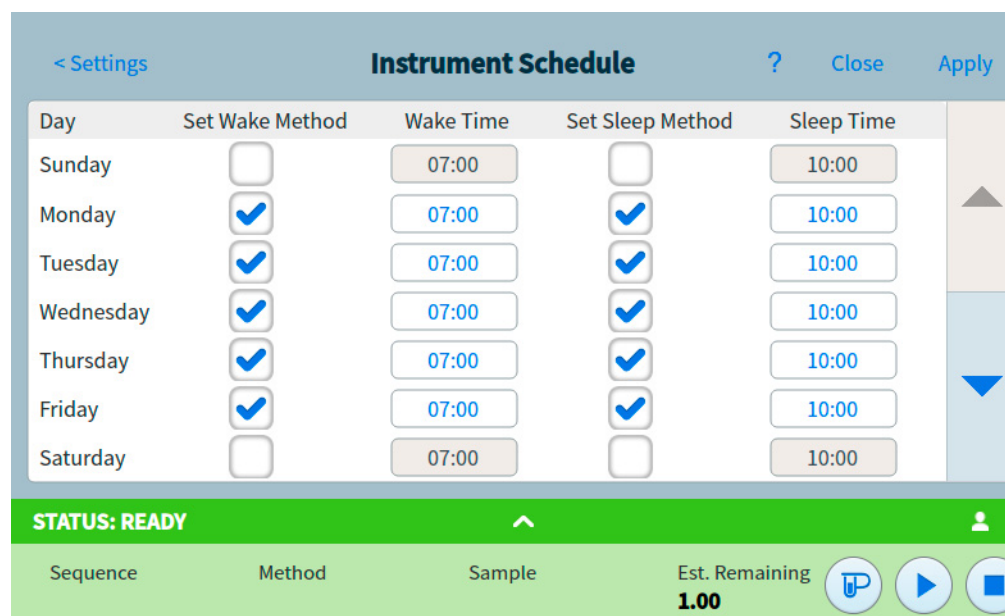

Figure 63. Instrument Schedule page
- 1 Select **Scheduler**. The Instrument Schedule page appears. See **Figure 63**.